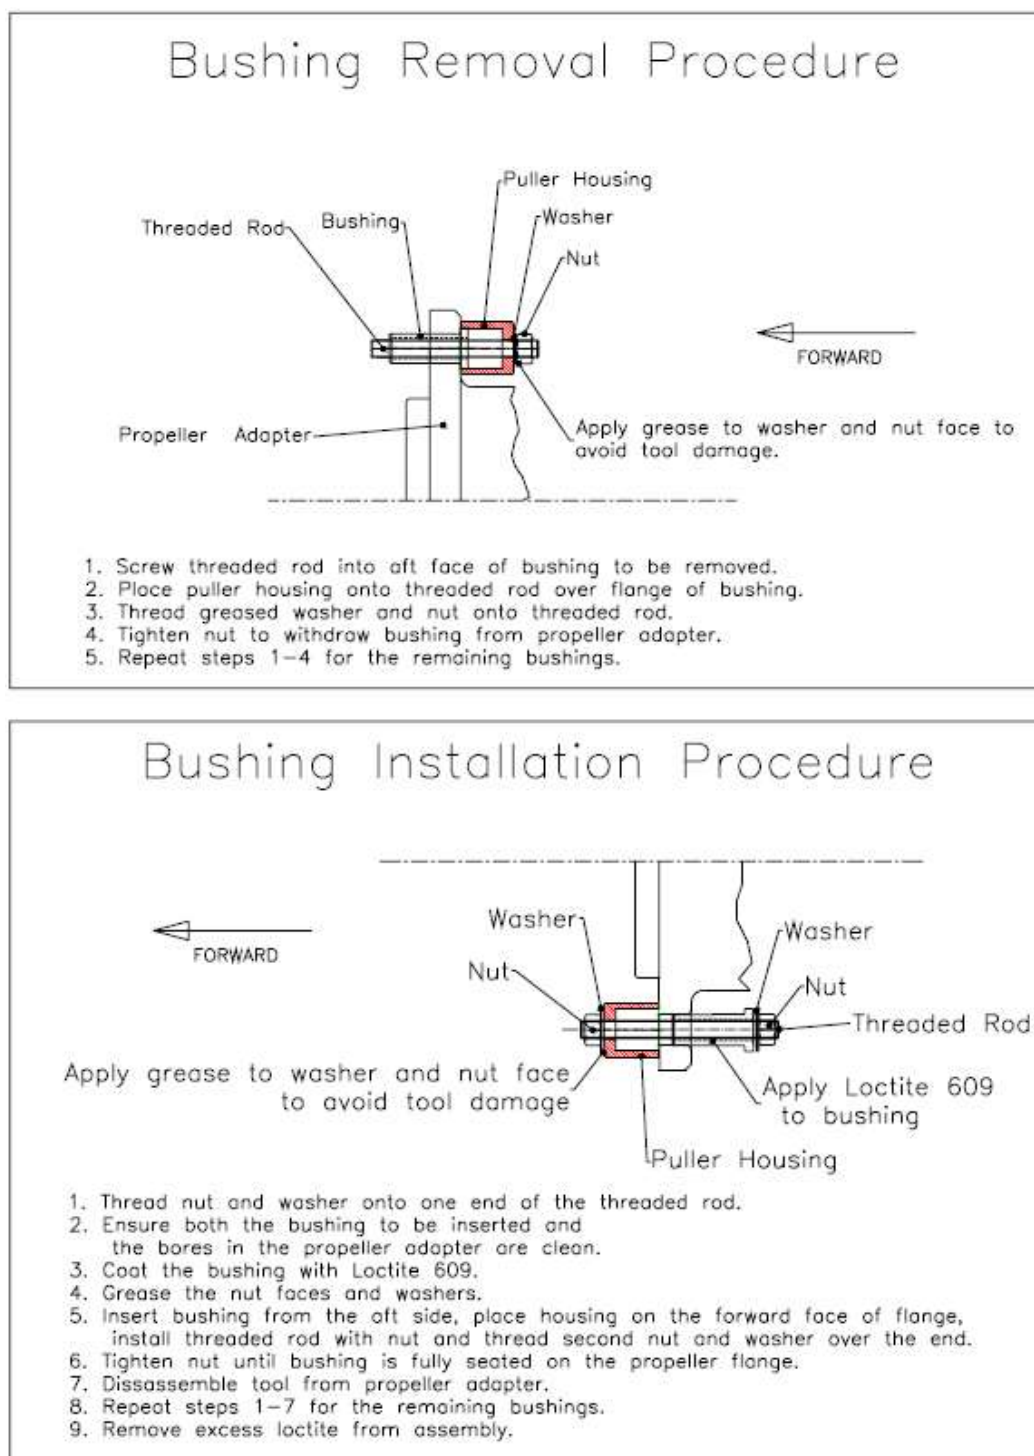

Figure 3. Instructions for step 6.
3. Remove the six bushings in the propeller flange using the removal/installation tool as shown in Figure 3.
6. Install the new (7/16" ID) bushings into bores using Loctite 609 and the installation tool. Ensure the bushings are completely pulled through the propeller flange. Reference Figure 3 for these instructions.